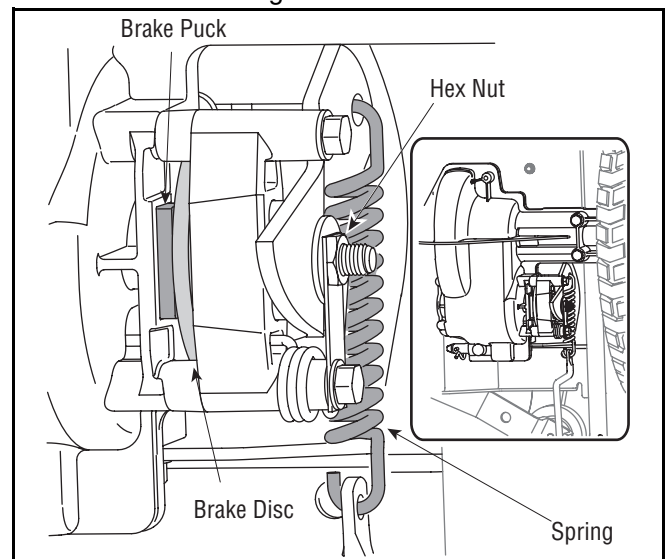

Figure 15
- Looking at the transmission from beneath thereof of the tractor, locate the compression spring and brake disc. See Figure 15.
- Loosen, but do NOT remove, the hex nut found on the right side of the brake assembly. See Figure 15.